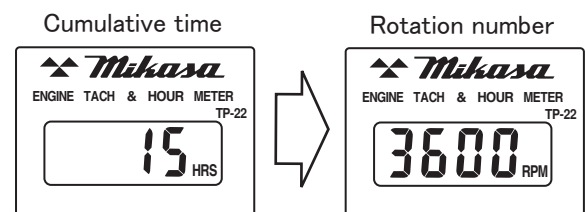

Fig.21
6. When the engine is stopped, the hour tachometer is always showing "Cumulative time". "Rotation number" is displayed during operation.(Fig.21)